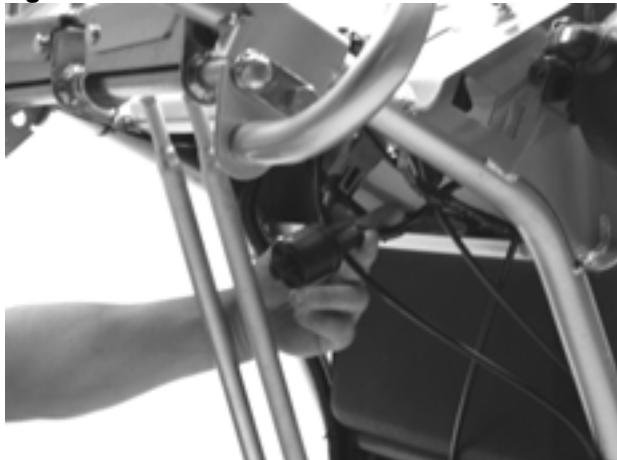

Figure 26
3. Reach under dash panel and pull ignition switch out **Figure 26**.